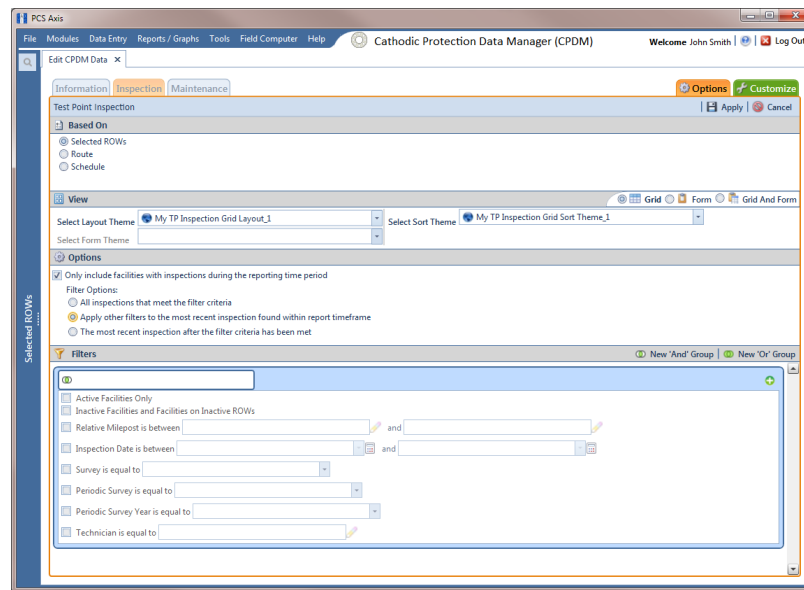

Figure 7-113. Apply Sort Theme
- b Click the down arrow in the field **Select Sort Theme** and select the new sorting theme in the selection list (Figure 7-113).